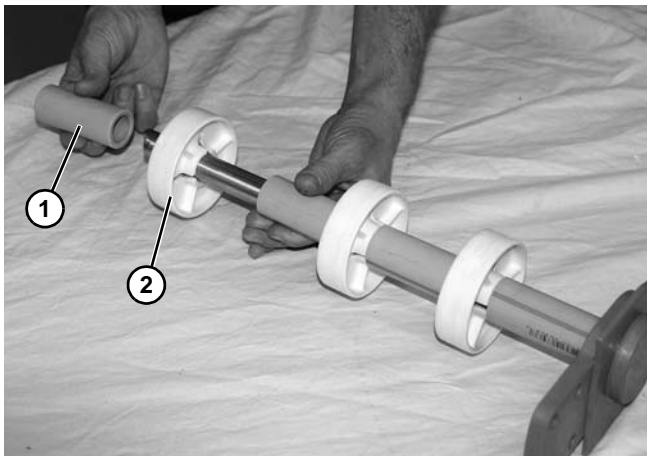

Figure 55
5. Slide off the round puck spacer (**Figure 55, item 1**).
6. Slide off puck (**Figure 55, item 2**) and replace if worn.